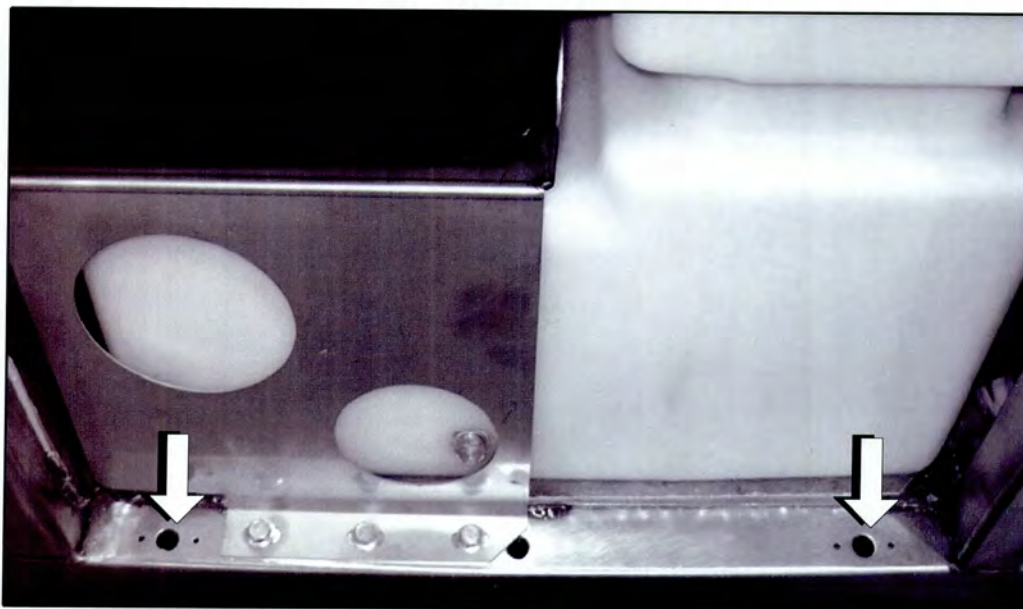

Figure 3.
5. Carefully pull the fuel panel away from the coach 1 – 2 inches, then lift fuel panel upwards to release the two (2) retention pins from the holes in the lower tube (refer to Figure 3). Place fuel panel and mounting hardware aside to be re-installed at a later step in this procedure.
30. Align the fuel panel retention pins to the holes in the lower tube (refer to Figure 3). Lower retention pins into holes to secure the bottom of the fuel panel.